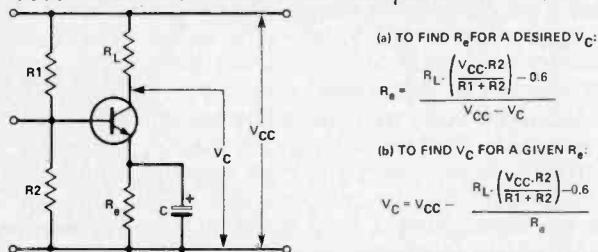

Fig. 5 The potential-divider bias method. This is particularly useful for mass-produced circuits, because bias does not depend on h_{ie} values.
The most-extensively used of all bias methods is our old friend in Fig. 5, which uses a potential divider to provide a constant voltage (we hope) at the base of the transistor, and DC feedback (series feedback this time) through the emitter resistor to stabilise the bias. The notable thing about the formula is that h_{ie} doesn't appear anywhere in it, so that the bias should not be affected by the value of h_{ie} . This means that the circuit is very tolerant of wide ranges of h_{ie} values, providing the base current of the transistor is not so large that it disturbs the base bias voltage set by the potential divider. As a rule of thumb, if the current flowing through R1 and R2 (equal to $V_{CC}/(R1 + R2)$) is something like 100 times the base current of the transistor, then the circuit will work exactly as per design, and any transistor whose base current is within limits can be used with the same bias components. If the base
These are just input resistance figures for the transistor itself, however, and the total input resistance will be affected by the bias components. When we use the potential divider bias circuit, for example, both R1 and R2 (in Fig. 5) are connected between the base and a line which is at 0 V (AC). How so, you ask? Well, as far as AC voltage is concerned, the supply positive line is as much of an earth as the genuine earth line, since they are connected to each other by a whopping great electrolytic in the power supply circuit. Hence all of these bias resistors are in parallel across the base-to-earth path, considerably lowering the input resistance (Fig. 7). If you think that the shunt feedback circuit of Fig. 2 is better then think again, because the collector end of the bias resistor is connected to a voltage which is in antiphase to (and of much greater amplitude than) the base voltage, so it behaves as if its value were R_b/G connected to earth. G is the voltage gain of the stage, so that if $R_b = 88\text{k}$ and $G = 50$, then the bias resistor is effectively 1k76 in parallel with the input resistance of the transistor itself.